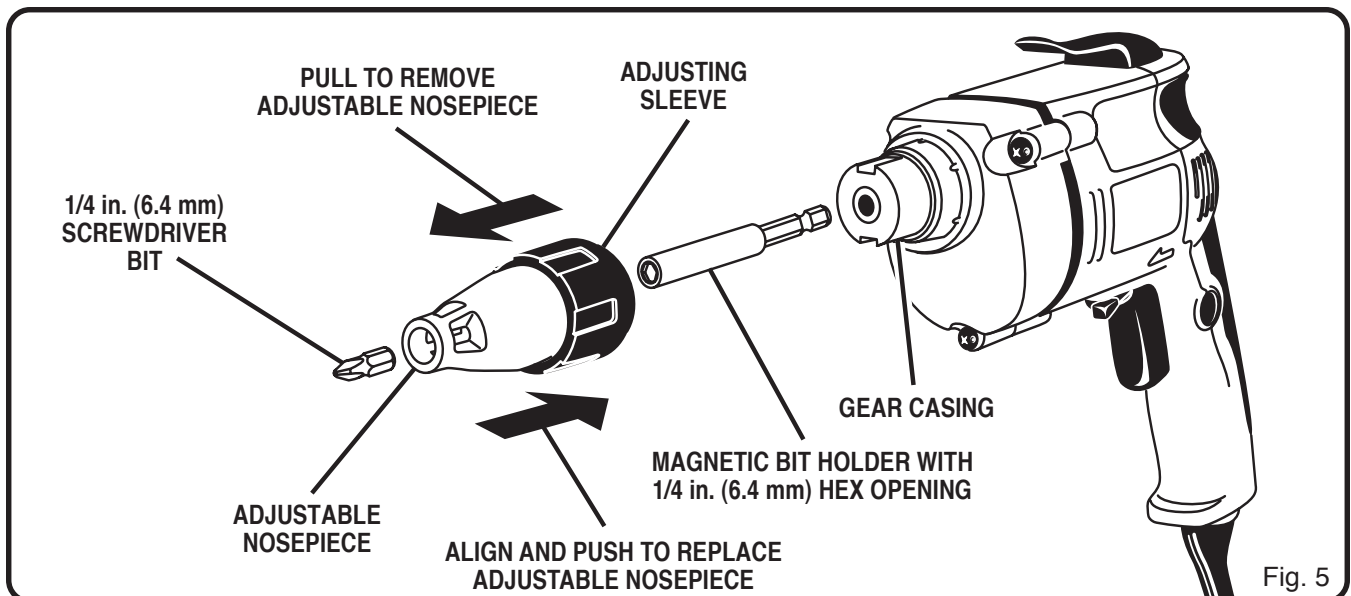

Fig. 5
See Figure 5.
**Note:** It is not necessary to remove adjustable nosepiece to install or remove bits. The magnetic bit holder shown in figure 5 illustrates the location of bit holder inside nosepiece.